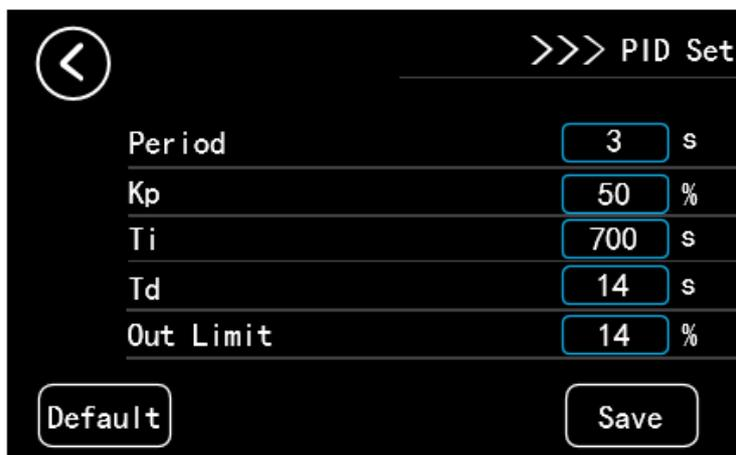

Fig 4.4 Parameter Output Setting
**Parameter Output Setting:** In the process of heating and cooling, PID control is adopted to control the temperature field of dry body furnace. On this screen, users can customize PID output parameters to meet the on-site requirements. Before delivery, the system presets a set of PID parameters made by manufacturer, as shown in Figure 4.4.